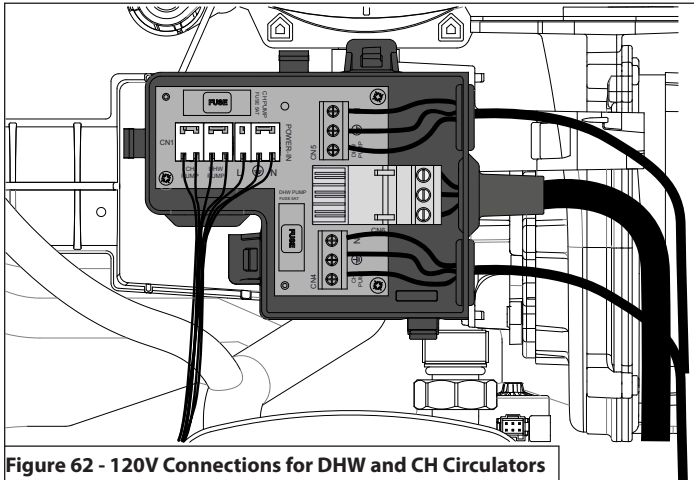

Figure 62 - 120V Connections for DHW and CH Circulators
6. Connect the cable on the connector CN5 (DHW pump) and CN4 (CH pump). See Electrical Wiring Diagram, Figure 62.